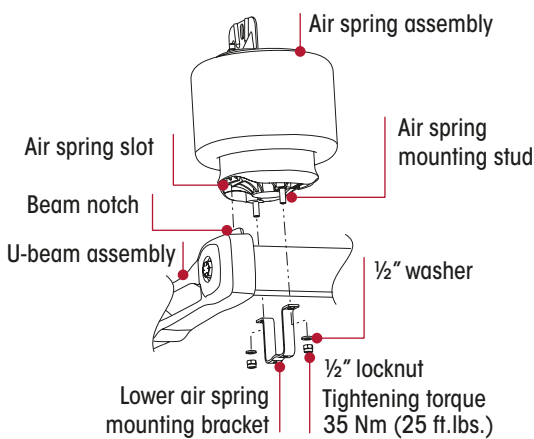

Figure 67: PRIMAAX EX Air Spring – Integrated End Cap
11. Install the air spring between the frame and the cross tube. Ensure the air spring slot in the bottom of the air spring engages the beam notch on the top of the support beam. Refer Figure 67.